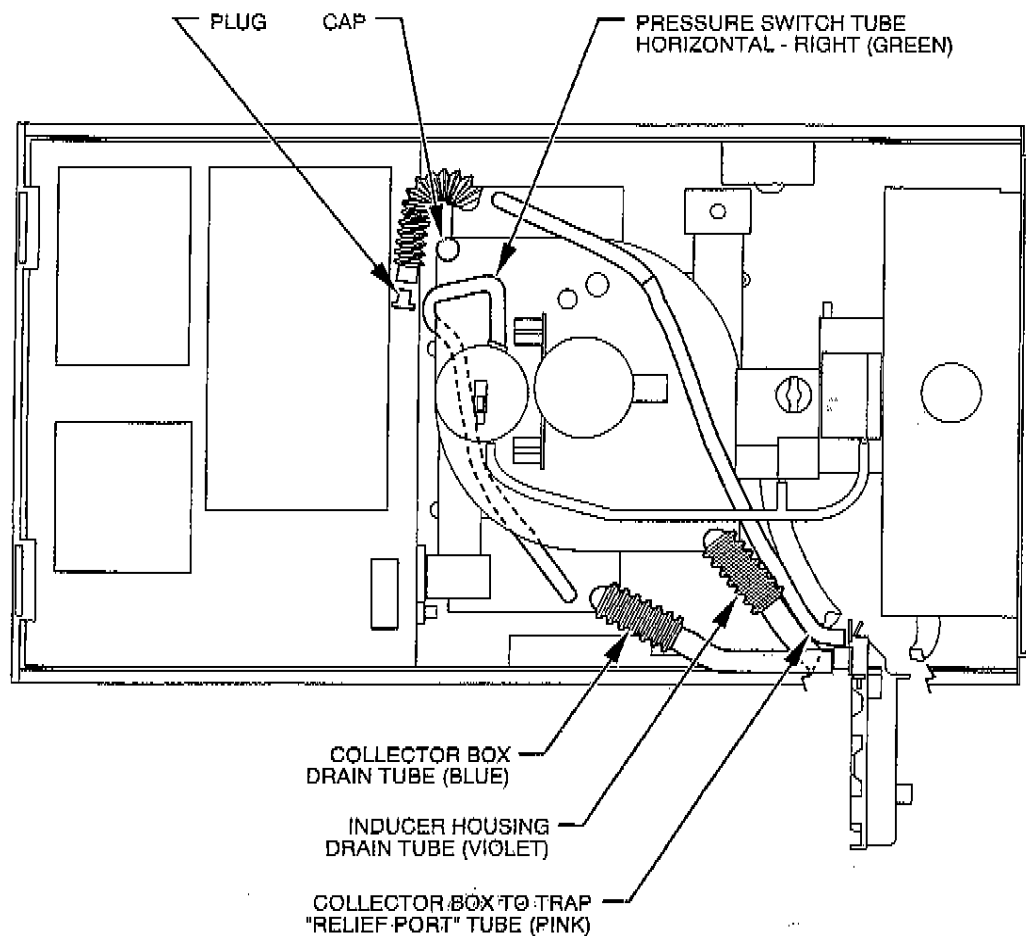

Fig. 10—Horizontal Right Tube Configuration
The pressure switch tubing is shipped from the factory assembled as shown in Fig. 4, and **REQUIRES** modifications. See Fig. 10 for proper location of pressure switch tubing connections.
2. Connect tube to pressure switch and clamp to prevent leakage. (See Fig. 10.)